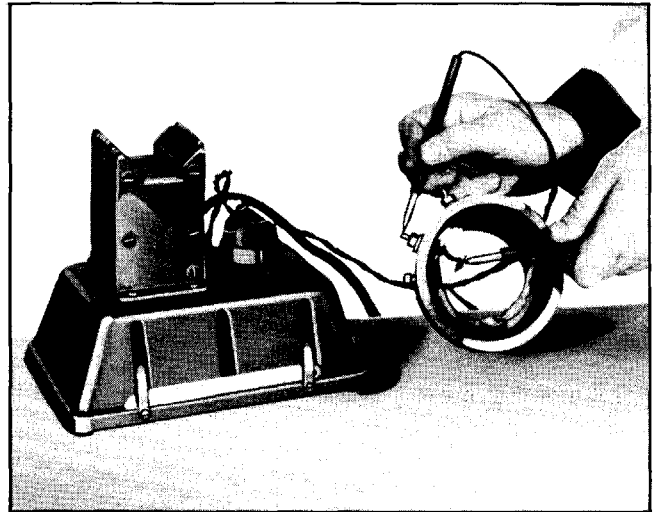

Fig. 12-20 Testing Brush Lead to Output Terminal for Open Circuit (Heavy Duty Only)
f. This test applies only to heavy-duty generators with brushes mounted on commutator end frame. Using a 110-volt test lamp, place one lead on generator positive (or output) terminal on generator frame, and place other lead on the end of wire to generator positive terminal which was removed from brush when generator was disassembled (Fig. 12-20). If lamp does not light, wire is open circuited and must be replaced.